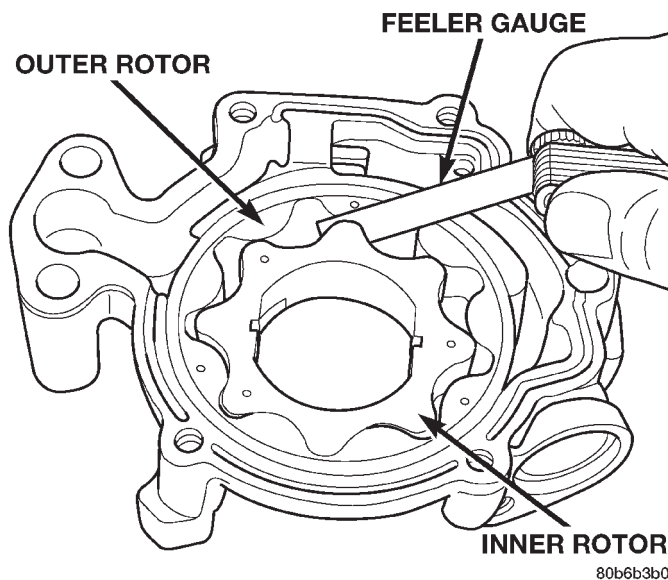

Fig. 122 Measuring Clearance Between Rotors
(7) Install the inner rotor in the into the oil pump body. Measure the clearance between the inner and outer rotors (Fig. 122). If the clearance between the rotors is .150 mm (0.006 in.) or more the oil pump assembly must be replaced.